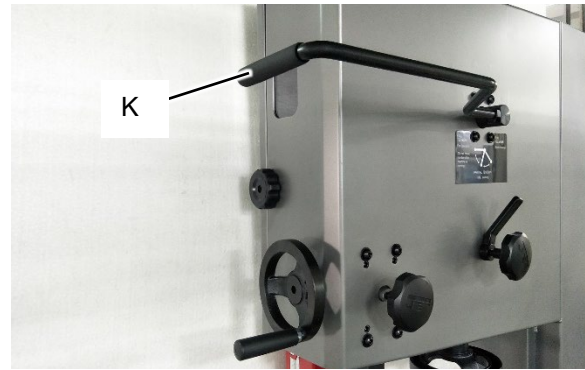

Figure 7-9
Refer to Figures 7-9 and 7-10.
1. Place tension lever (K, Figure 7-9) in *Full Tension* position.